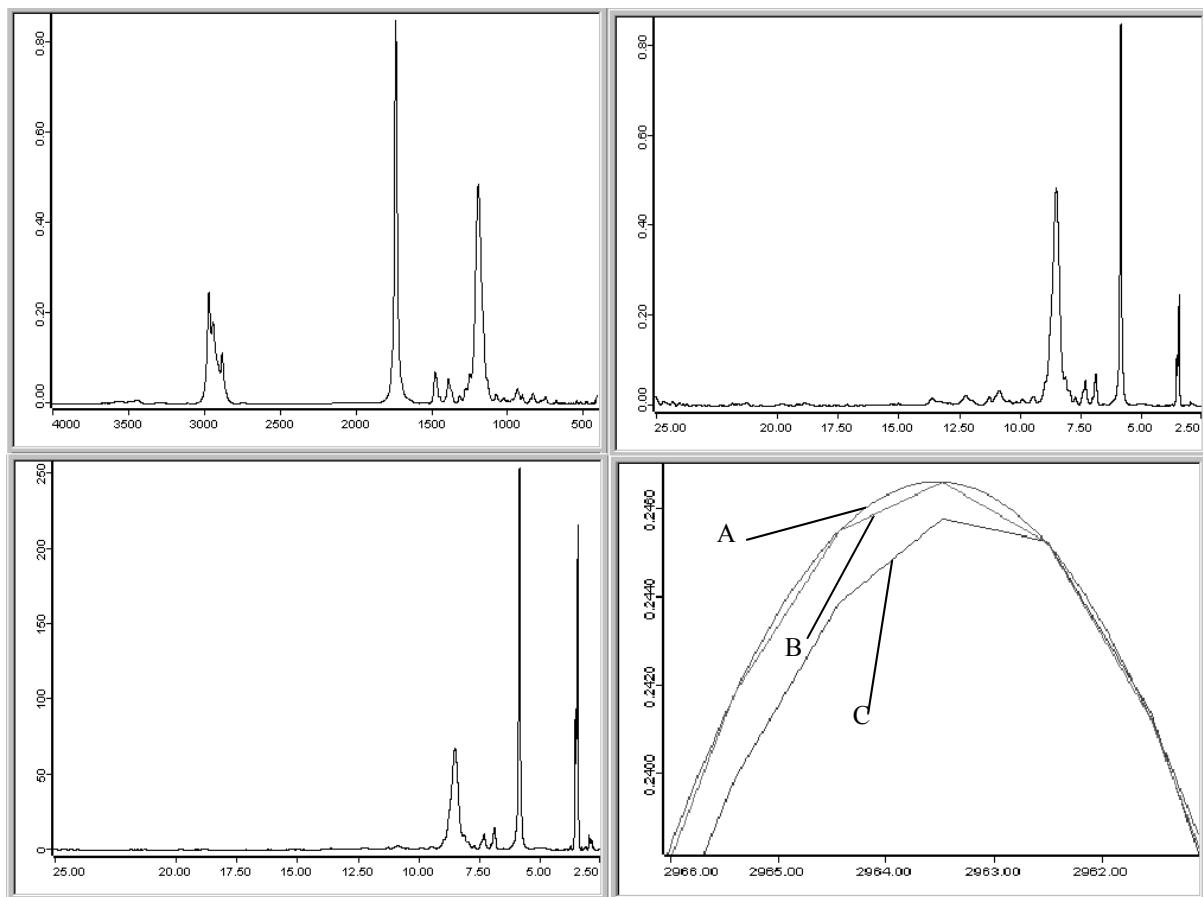

Figure 153: Original data and converted spectra after abscissa conversion
The upper left spectrum in figure 153 shows the original data scaled in wave numbers. On the right it has been converted to wavelengths, with the intensities remaining unchanged. In the lower left spectrum the intensities have been converted without changing the integrals. The lower right spectrum shows the original spectrum (B) which has been converted from wave numbers to wavelengths and reconverted for comparison. Spectrum (A) uses an MCF of 1, spectrum (C) an MCF of 15. The number of data points in (A) is about ten times higher than in (C), and comes very close to the original data.